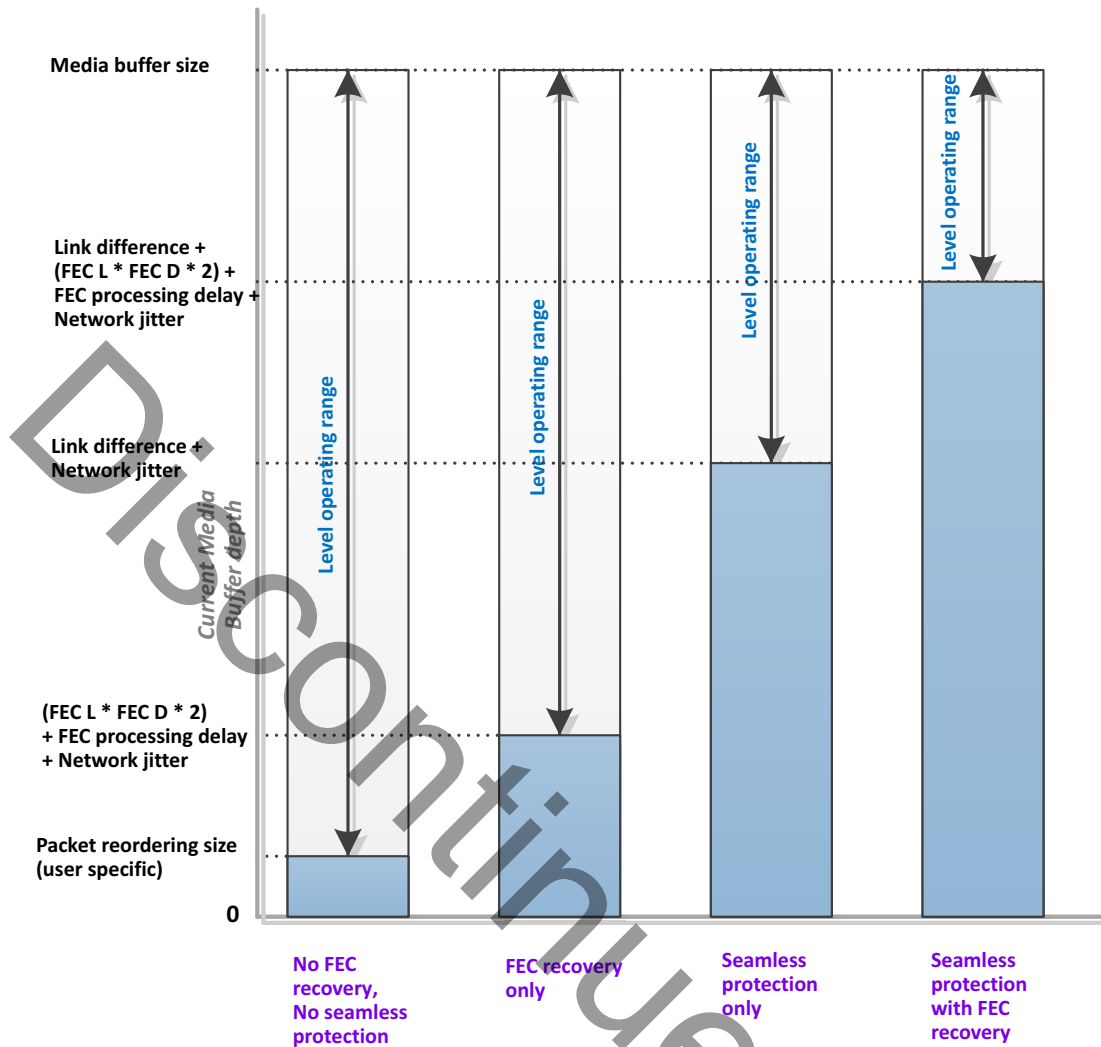

Figure 3-11: Current Media Buffer Depth Maintained by the Controller
2. Request packet can start when the media buffer depth reach certain level based intended core operation. Refer to Figure 3-11.